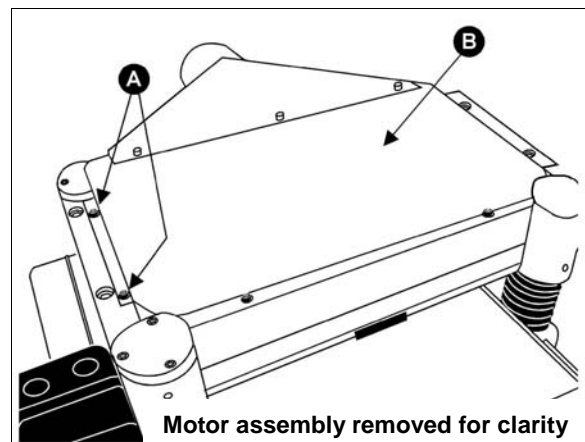

Figure 20
2. Remove four hex cap screws (A, Fig. 20) from the upper cover and three from the bottom of the dust port. Remove the cover/dust port (B, Fig 20) as a unit.
2. Remove four screws (A, Fig. 20) from the upper cover and three from the bottom of the dust port. Remove the cover/dust port (Fig. 20) as a unit.